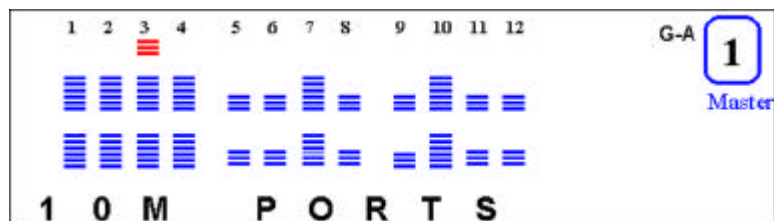

Figure 4.14 10 Mbps Ports
- 3) Press <Enter> to view all the ports' status at once. Figure 4.14 illustrates 10M ports. In Figure 4.14, ports 13, 14, 15, 16, 19 & 22. Ports 1, 2, 3, 4, 7 & 10 are indicated as 10M ports.